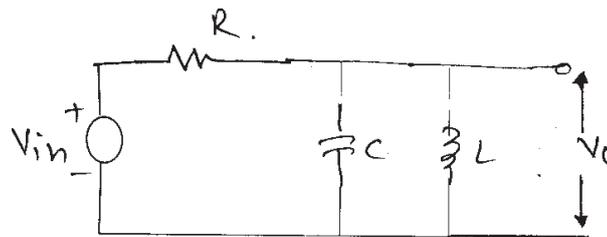

Figure 3
- Q11)** a) For the network shown in figure 3, find transfer function $\frac{V_o}{V_{in}}$ and find the sensitivities of K , ω_p , ω_z , Q_z and Q_p with respect to the passive elements R, L and C. [10]